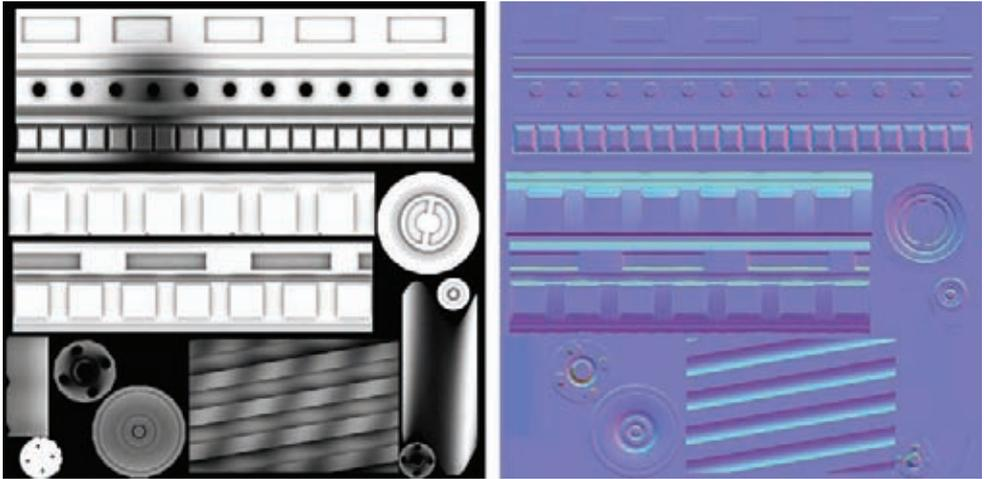

Figure 8.24
6. Once your textures are generated, you can duplicate the remaining halves of the mesh and use them to fill in the gaps. Since the meshes you are duplicating are already mapped with UVs, the duplicates will share those same UV coordinates. The result will look like Figure 8.24.